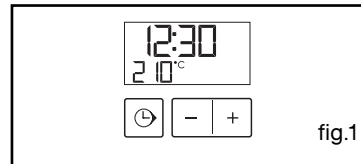

fig.1
- Select the desired cooking mode and adjust the temperature (fig. 1).